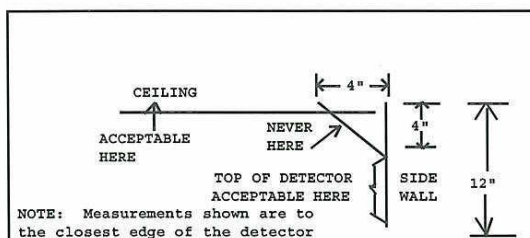

Figure 5
- The 4 inch "Dead Air" space where the ceiling meets the wall, as shown in Figure 5.